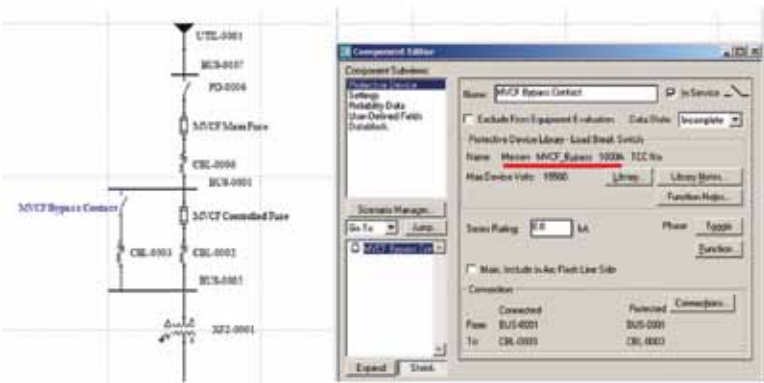

Figure 6 Selection of the bypass switch of the MVCF.
Step 4. The bypass switch was added to the one-line as a switch from the equipment tool bar. Select the switch from the Component Editor and make the selection shown in Figure 6. Since the opening time of the bypass switch is built into the MVCF controlled fuse time current curves there is no need to account for its opening time for arc flash calculations. This switch will be opened for the arc flash calculation.